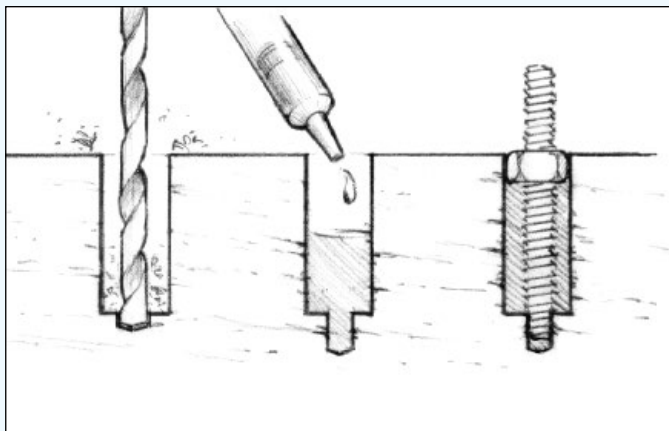

Figure 20
2. Place a nut and washer on the studs, wet out the lower ends and push them into the epoxy filled holes. Allow the epoxy to cure thoroughly before attaching hardware and tightening the nuts (*Figure 20*).